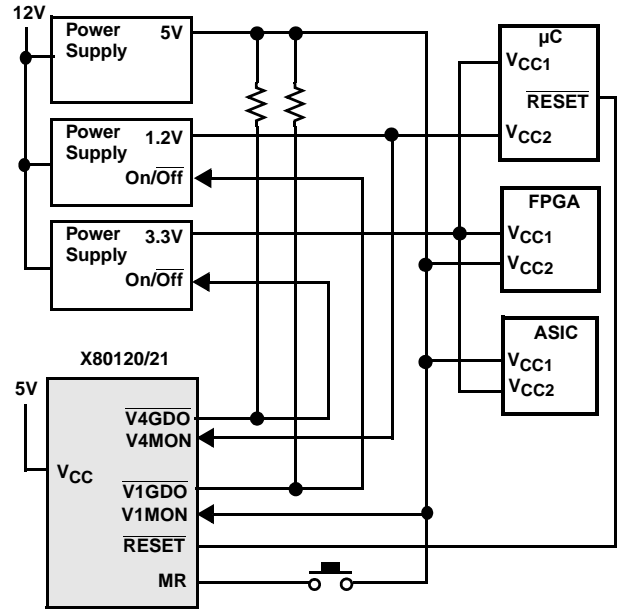
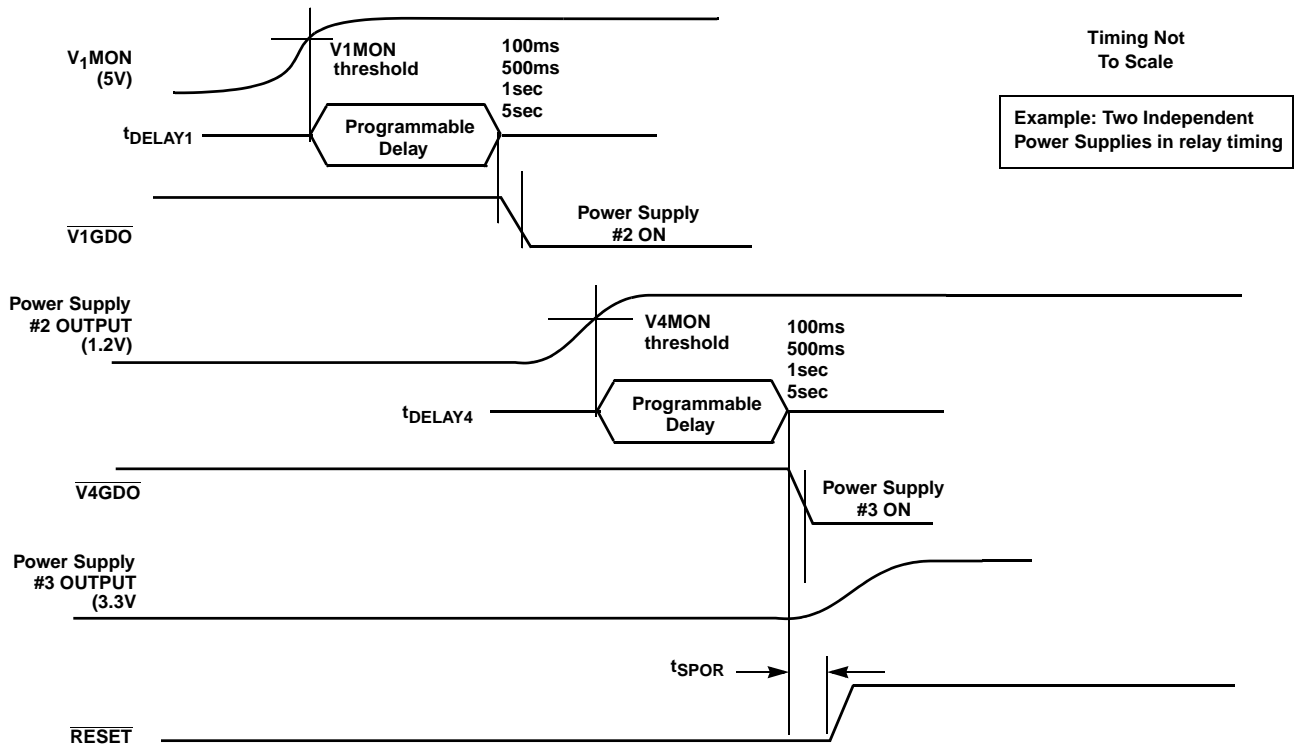

FIGURE 9. EXAMPLE OF RELAY POWER SUPPLY SEQUENCING
FIGURE 10. RELAY SEQUENCING OF DC-DC SUPPLIES (TIMING)
2. Power Up of Supplies Via Relay Sequencing Using Voltage Monitors (see Figure 9 and Figure 10).